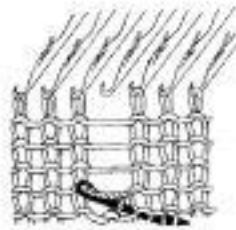

Fig. 53-1
1. Insert the hook of the Latch Needle Tool into the loop of the dropped stitch from the back of the work. Push the tool towards you so that the hook passes under the strand of yarn and the loop passes behind the latch. (Fig. 53-1)